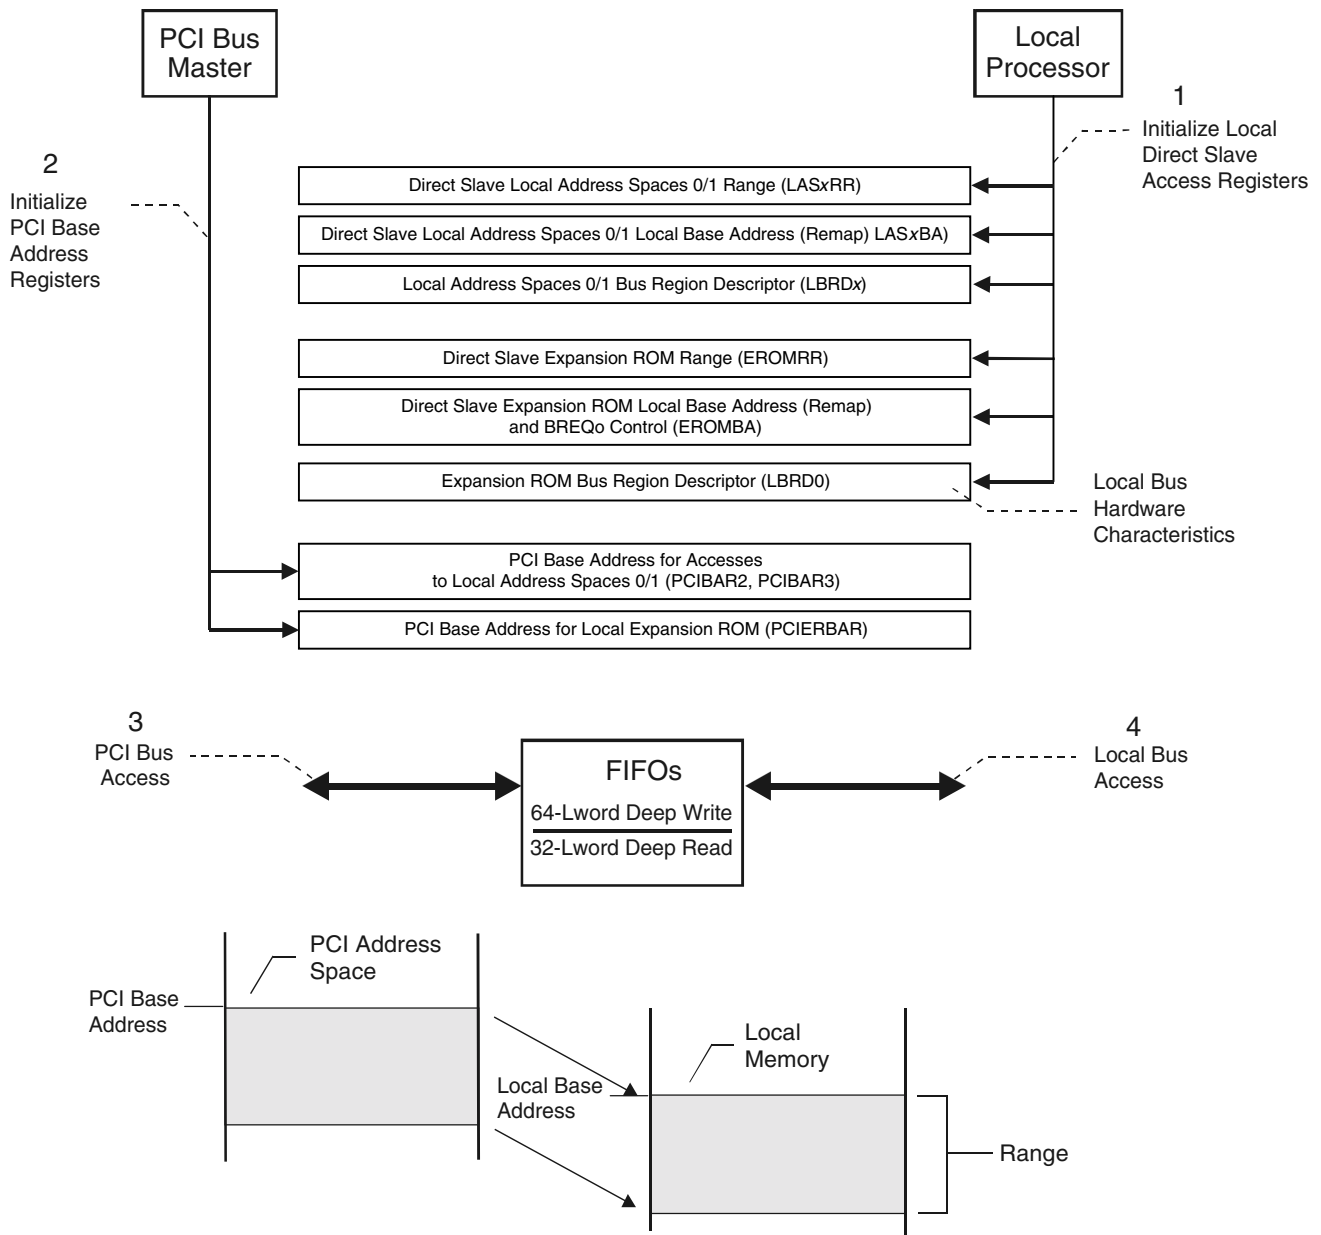

Figure 3-10. Local Bus Direct Slave Access
A fourth register, the Bus Region Descriptor register(s) for PCI-to-Local Accesses (LBRD0 and/or LBRD1), defines the Local Bus characteristics for the Direct Slave regions. (Refer to Figure 3-10.)
After a PCI reset, the software determines how much address space is required by writing all ones (1) to a PCI Base Address register and then reading back the value. The PCI 9056 returns zeros (0) in the “don’t care” address bits, effectively specifying the address space required. The PCI software then maps the Local Address space into the PCI Address space by programming the PCI Base Address register. (Refer to Figure 3-10.)